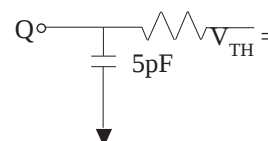

Fig. 2 Output Load Equivalent
- t_{LZCE}, t_{LZWE}, t_{LZOE}, t_{HZCE}, t_{HZOE} and t_{HZWE} are specified with CL = 5pF as in Fig. 2. Transition is measured ±200mV typical from steady state voltage, allowing for actual tester RC time constant.